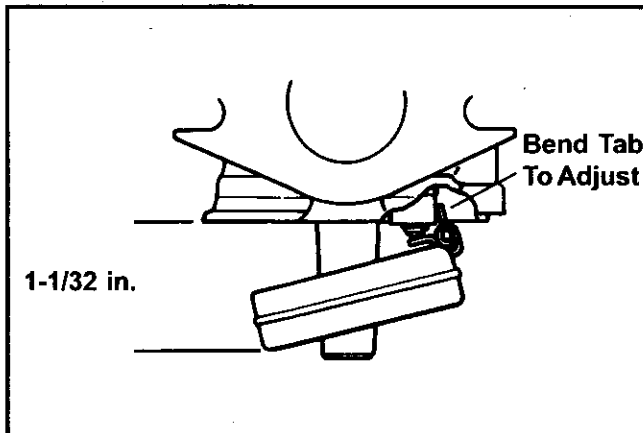

Figure 5. Setting Float Drop.
3. **Set float drop:** Turn the carburetor over to its normal operating position and allow float to drop to its lowest level. The float drop should be limited to 1-1/32 in. between the machined surface of body and the bottom of the free end of float. Bend the float tab with a small screwdriver to adjust. Refer to Figure 5.